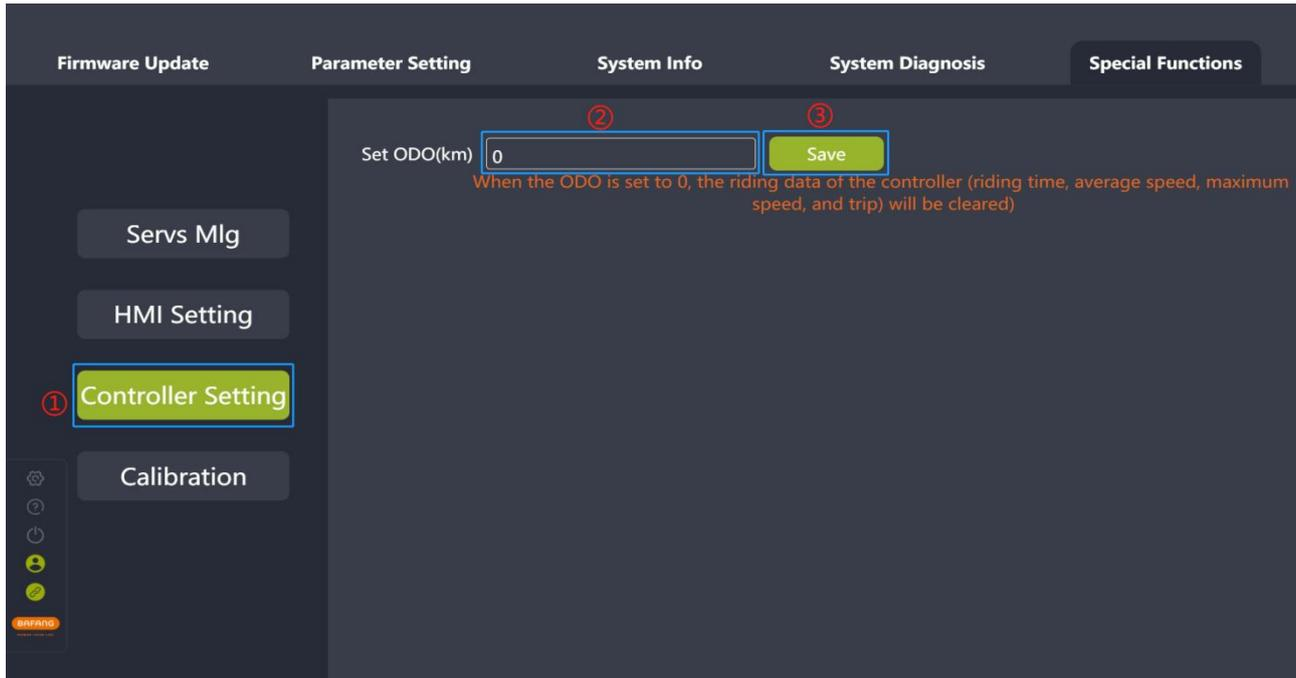

Fig. 8-7 Set ODO
- (1) Connect the BESST Tool to the controller (if supports) and select "Controller Setting".
- (2) Enter the ODO value (an integer from 0 to 9999) in the "Set ODO(km)" input box.
- (3) Click "Save" (Fig.8-7).